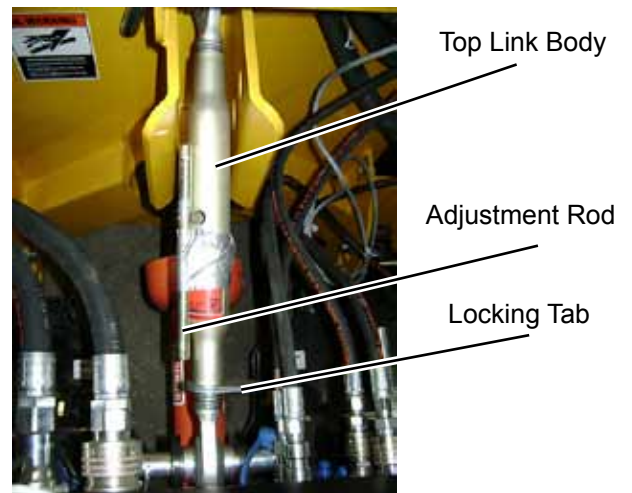

Figure 13
See Figure 13.
2. Strike the locking tab counterclockwise (CCW) to break it loose and screw it away from the top link body (Figure 13).